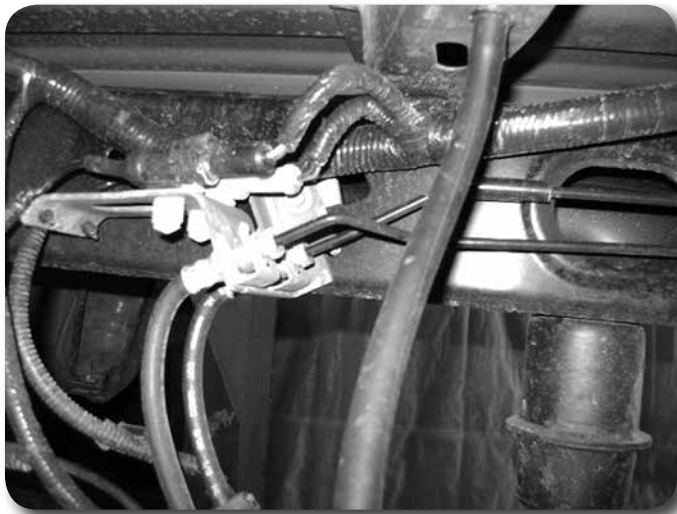

Figure 4
5. Disconnect the rear brake line from the frame. **Figure 4**